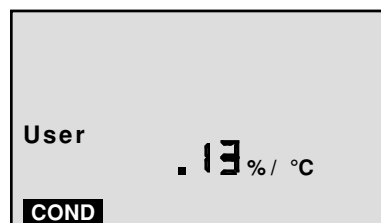

Figure 2
- b. With "USER" mode now selected, press . You may now adjust a temperature compensation from .00%/°C to 9.99%/°C, by pressing  or . See example in Figure 2.